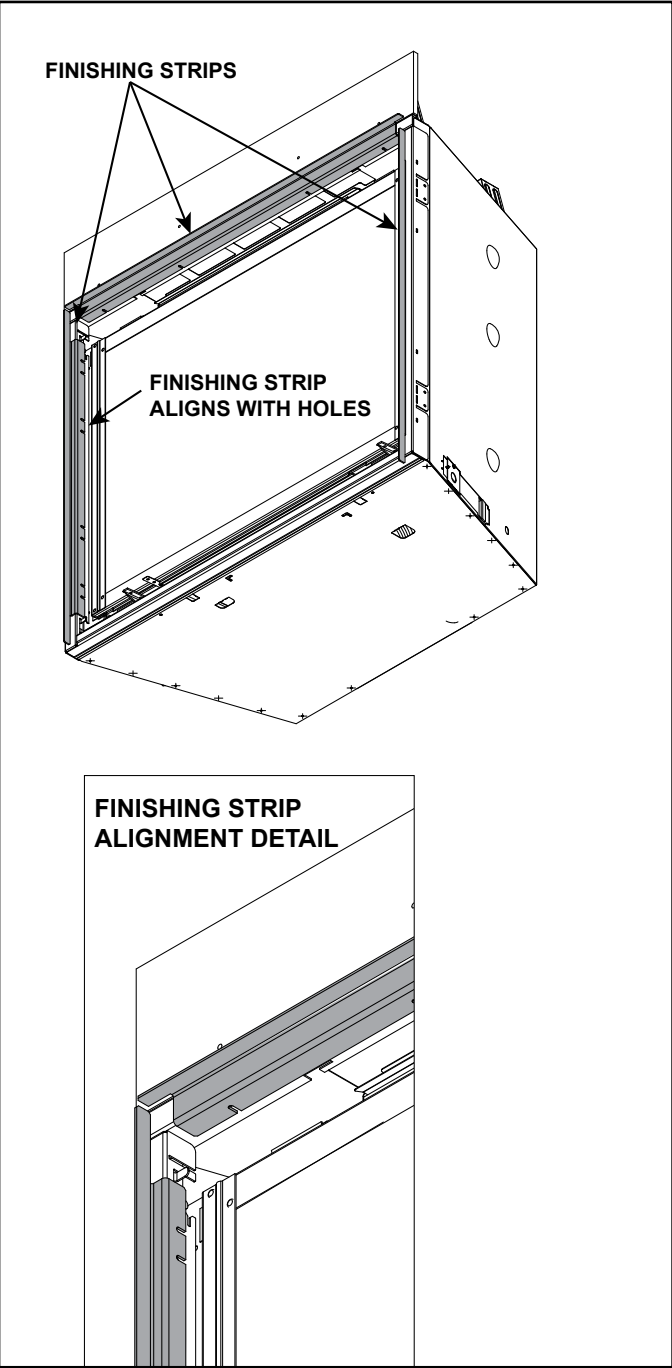

Figure 10.16 Install Finishing Strips
2. Finishing strips required. Shipped with appliance. See Figure 10.16.
1. Align finishing strip with the two pre-drilled holes on the appliance top and sides as shown in Figure 10.16.